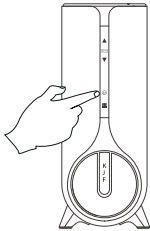

Figure 24
- (4). Long press the filter reset button on the machine  for 5 seconds. When you hear the "beep" sound from the system, the filter has been successfully reset. The indicator lights of the front panel and faucet filter will turn blue. **(Figure 24)**